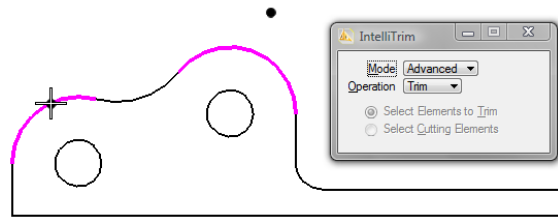

Figure 10.10 – Selecting Elements to Keep
*** World Class CAD Challenge 22-19 * - Create a New file and draw the 10 entities shown in Figure 10.10 in 50 seconds. Continue this drill four times, each time completing the drawing under 50 seconds to maintain your World Class ranking.**